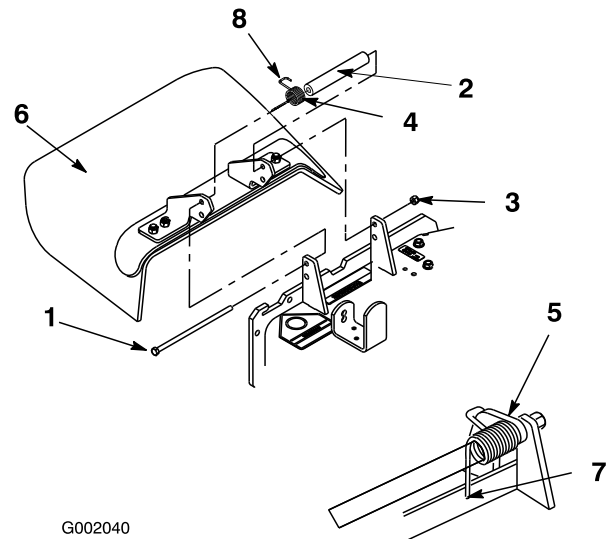

Figure 65
1. Remove the locknut, bolt, spring and spacer holding the deflector to the pivot brackets (Figure 65). Remove the damaged or worn grass deflector.
Note: Make sure the L end of the spring is installed behind the deck edge before installing the bolt as shown in Figure 65.
3. Install the bolt and nut. Place the **J** hook end of the spring around the grass deflector (Figure 65).